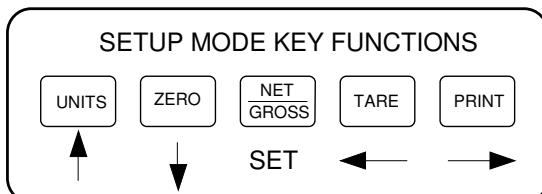

Figure 6-1: Setup Menu Key Assignments
6. Use the four directional keys (shown in Figure 6-1 below) to adjust the displayed value to the actual test weight value. Increase the flashing digit by pressing the UNITS key. Decrease the flashing digit by pressing the ZERO key. Pressing the PRINT key or the TARE key will change the position of the flashing digit.
2. The display will momentarily show "**CAL 0**", followed by a flashing zero. Use the four directional keys (shown in Figure 6-1) to adjust the displayed value to the zero calibration value.
2. The display will momentarily show "**CAL 1**", followed by a flashing zero. Use the four directional keys (shown in Figure 6-1) to adjust the displayed value to the span calibration value.